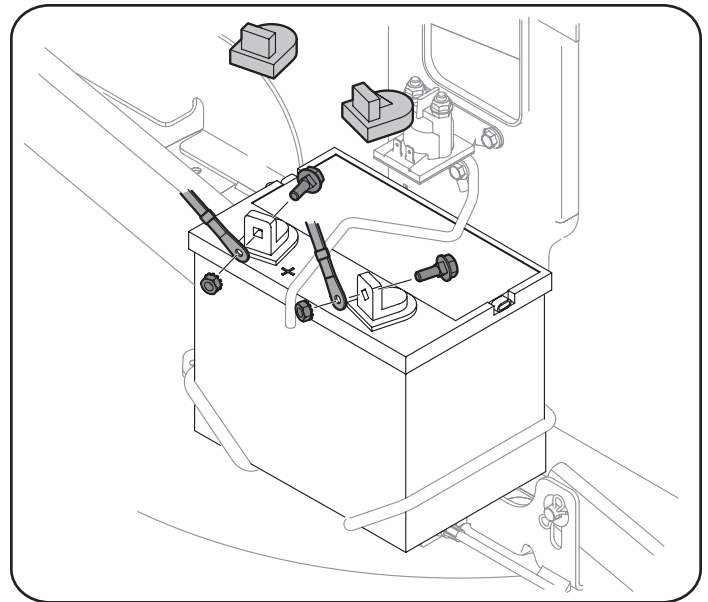

Figure 16
2. Remove the plastic cover, if present, from the positive battery terminal and attach the red cable to the positive battery terminal (+) with one of the hex bolt and hex nuts, using a 7/16 inch wrench and socket wrench. See Figure 16.
3. Remove the plastic cover, if present, from the negative battery terminal and attach the black cable to the negative battery terminal (-) with the remaining hex bolt and hex nut, using a 7/16 inch wrench and socket wrench. See Figure 16.